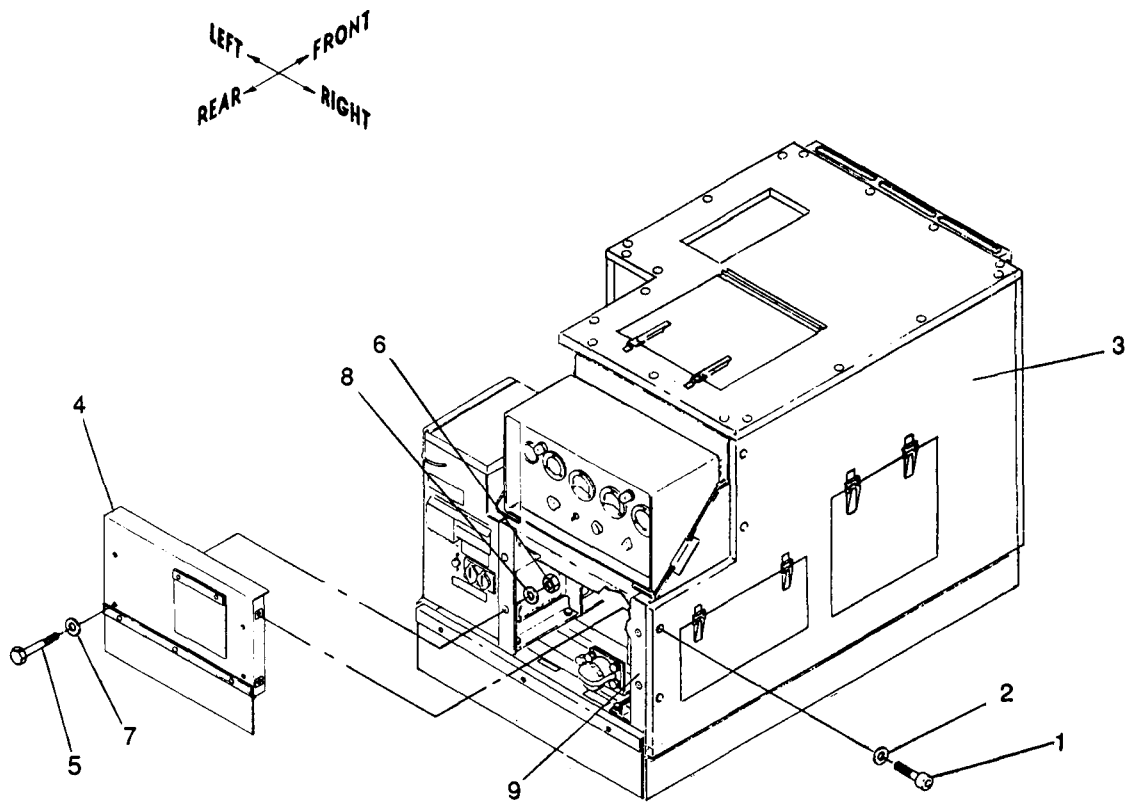

Figure 5-6. Rear Panel Assembly, Removal and Installation
a. Removal. See figure 5-6. Remove rear panel assembly from control cubicle support frame and right panel assembly as follows:
(1) Remove two screws (1) and washers (2) securing right panel assembly (3) to rear panel assembly (4).
(2) Remove four screws (5) and locknuts (6) and eight washers (7 and 8) securing rear panel assembly (4) to control cubicle support frame (9), and remove rear panel assembly (4).
b. Installation. See figure 5-6. Install rear panel assembly to control cubicle support frame and right panel assembly as follows:
(1) Position rear panel assembly (4) on control cubicle support frame (9) and install four screws (5) and locknuts (6), and eight washers (7 and 8) securing rear panel assembly (4) to control cubicle support frame (9).
(2) Torque screws (5) to 16 \pm 2 ft-lbs dry.
(1) Rear Panel Assembly (refer to figure 5-6, item 4).